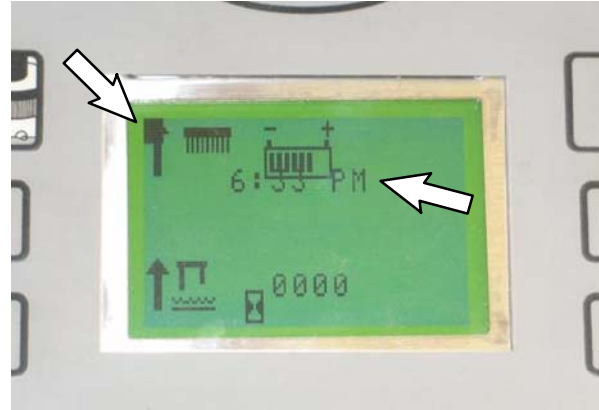

FIG. 5
11. Simultaneously turn the key switch ON while holding down the TENNANT Logo button to access the diagnostic menu. If the language is scrambled, press the logo button three additional times to access Diagnostic Menu #4. Press the upper left button. The language will reset to English. If the display is clear, proceed to the following step. If the display is not clear or the text and graphics appear poorly placed or overlap, proceed to the **MEMORY FLASH CARD REPLACEMENT INSTRUCTIONS (Kit 9008411)**. (Fig. 5)